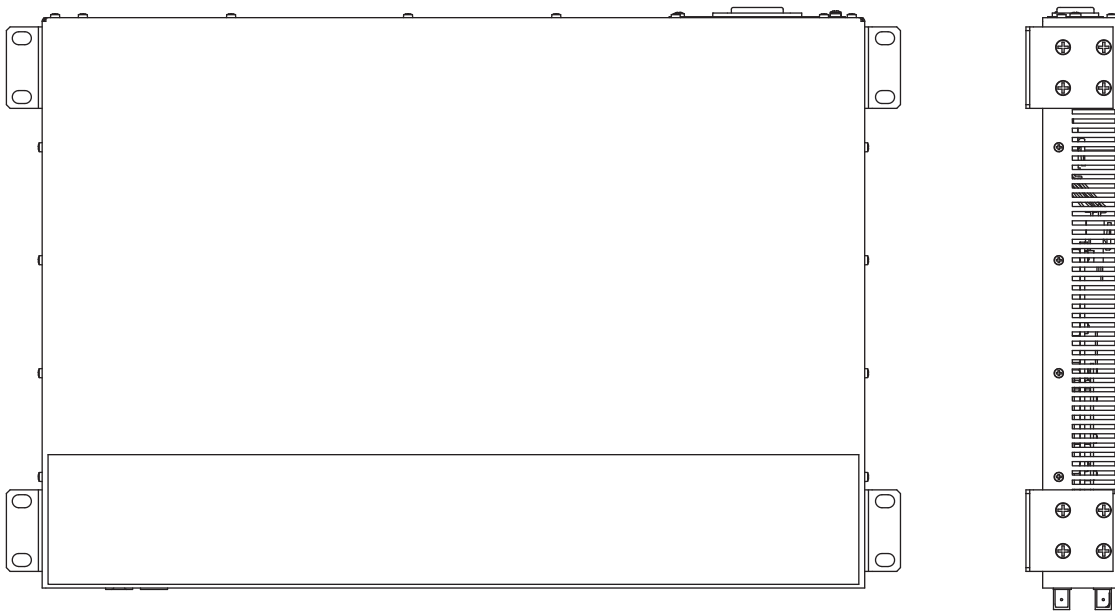

Figure 5: Vertical mounting on the wall
- Use the pre-mounted brackets included in the delivery as shown in the following figure (see fig. 5).
- Attach two additional brackets to the device (see on page 42 “Accessories”, not included in the delivery) as shown in the following figure (see fig. 5).